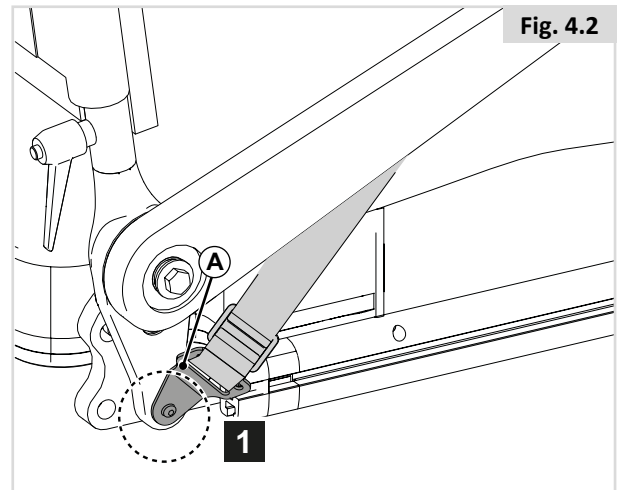

Fig. 4.2
1. Attach (A) to the seating frame using a screw on the left and on the right. (Fig 4.2)